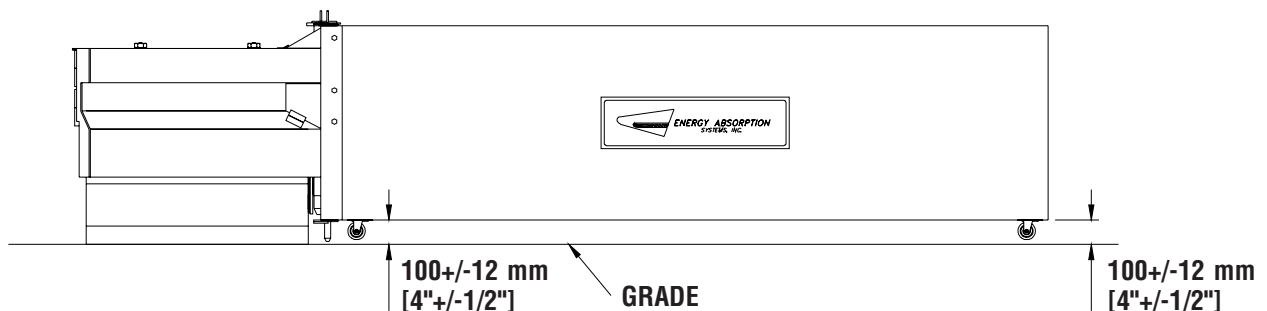

Figure 22
Step 11: Checking Installation Height (See Figure 22)